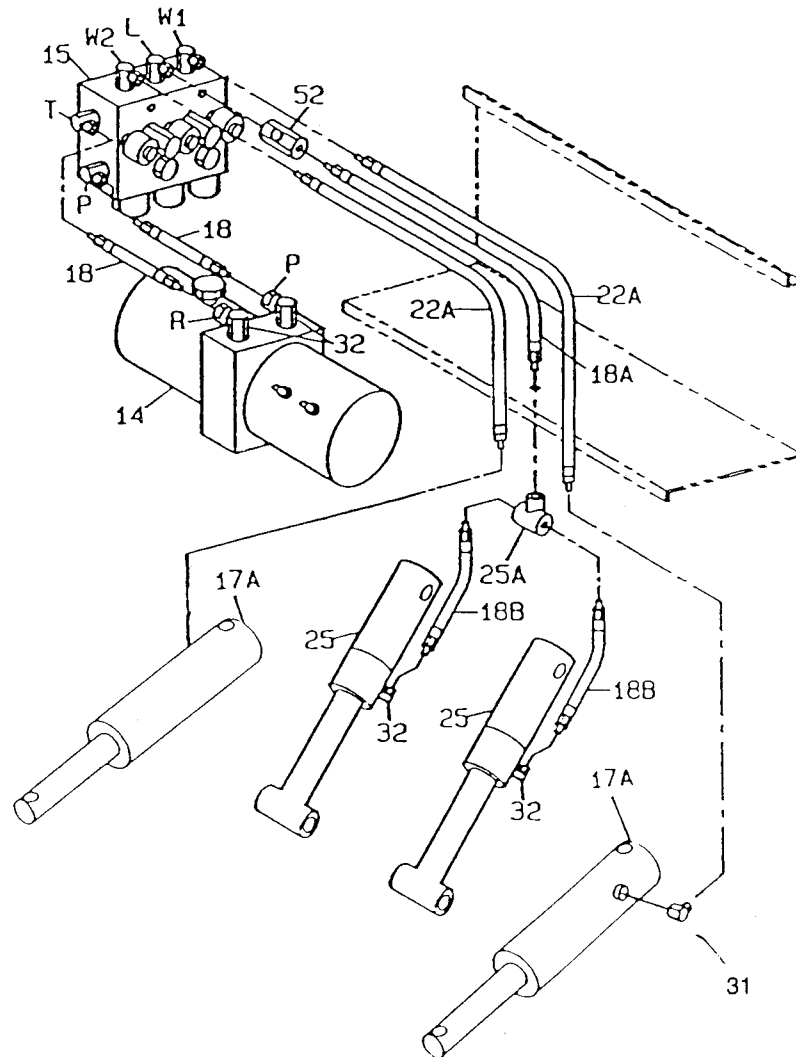

FIGURE 6
5. Adjust the flow control valve (Ref. 52, Fig. 6) to obtain the speed desired for lowering the plow. Turning the thumb screw clockwise to lower the plow slower. Turning the thumb screw counter clockwise will lower the plow more quickly.